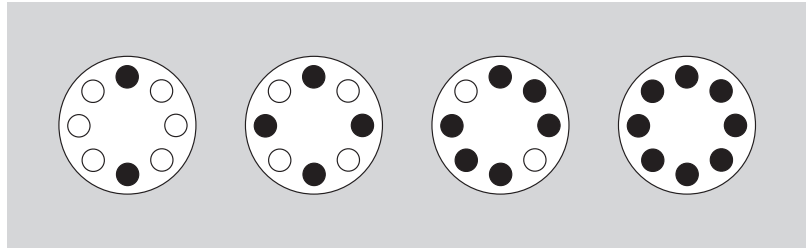

Figure 1. Arranging Tubes in the Rotor. Two, four, six, or eight tubes can be centrifuged per run, if they are arranged in the rotor as shown.
2. Load the filled containers symmetrically into the rotor. (Refer to TUBES AND BOTTLES on page 7 for information about containers.) If fewer than eight tubes are being run, they must be arranged symmetrically in the rotor (see Figure 1). Opposing tubes must be filled to the same level with liquid of the same density.